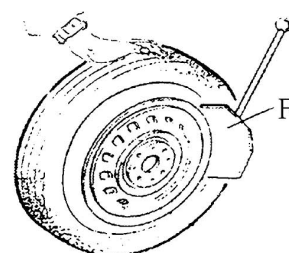

Fig. 17
- 1) Must deflate the tyre first; then lean the tyre against the rubber pad on the right side of the tyre changer. Move the bead breaker (F) against the tyre bead, about 1cm to the rim (Fig. 17). Step on the tyre pressing pedal, and the bead breaker will move inward to press tyre bead. Repeat the process alongside the rim, with different angle to press both sides of the tyre until tyre bead has been completely loosened;